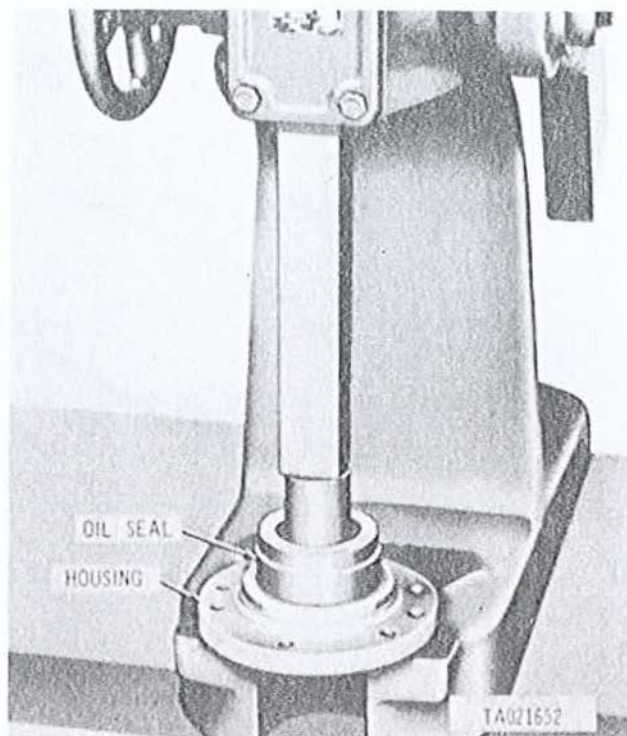

Figure 3-228. Pressing oil seal into fan drive oil seal housing.
(8) Position fan drive oil seal housing (fig. 3-228) on arbor press, coat flange face of new oil seal with plastic lead sealer, and position oil seal on housing base with lip of seal toward fan drive housing cover mounting face and press oil seal in housing.